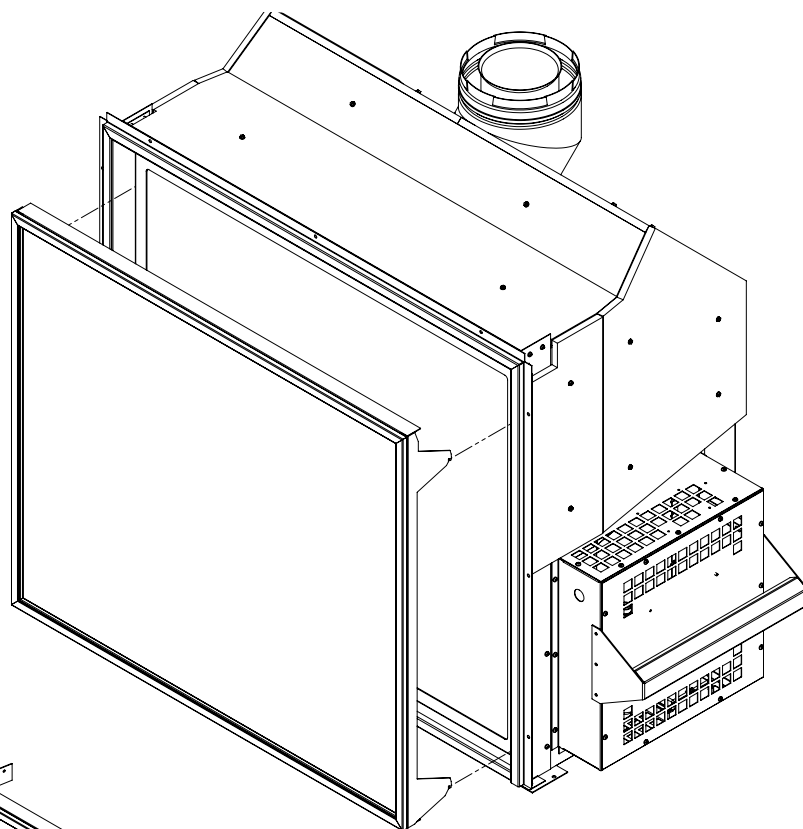

Figure 50: Safety Screen Removal
1. Firmly grip the safety screen with from both sides and gently lift screen off the mounting brackets and pull back (see Figure 50).